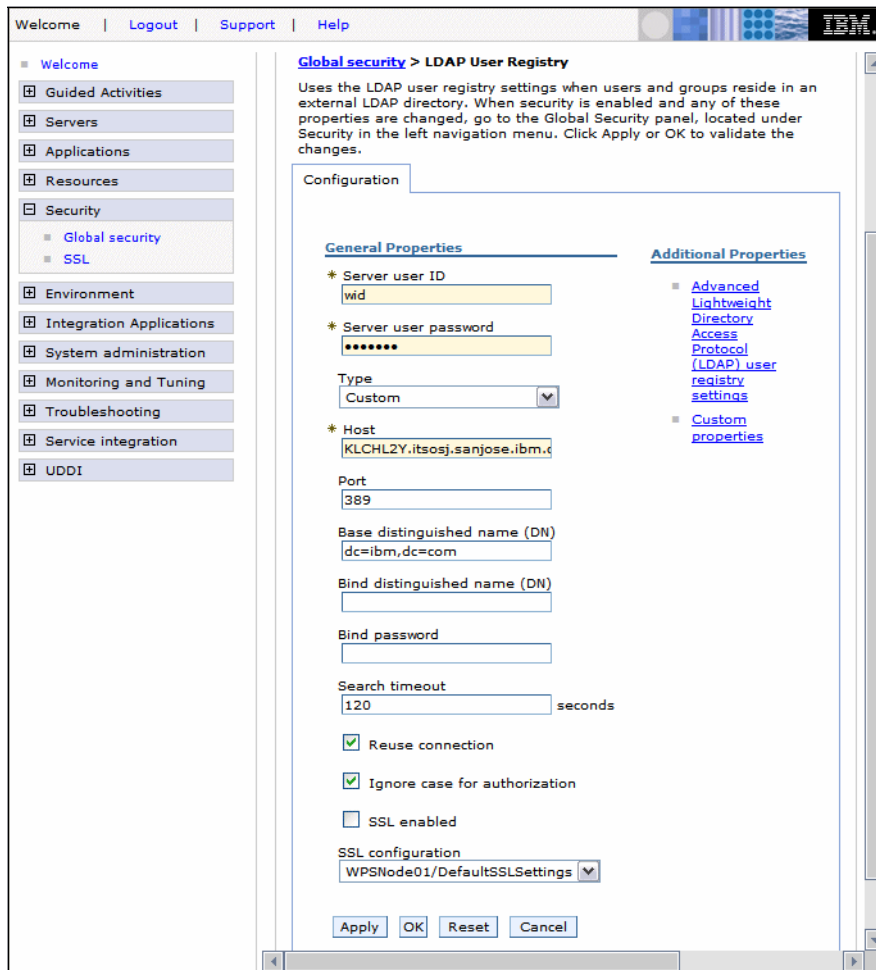

Figure A-32 Enable Security: Specifying LDAP settings
- ▶ For *Base distinguished name (DN)*, enter the base DN for your LDAP Server. In our example we use `dc=ibm,dc=com`.
- ▶ Leave the remaining default values as is (Figure A-32).